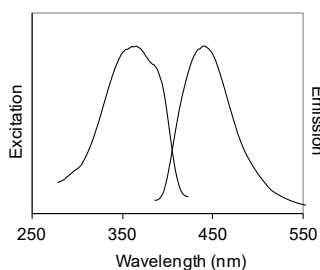

Figure 1. Normalized excitation and emission spectra of CellBrite® Blue in liposomes.
**Absorption/Emission** 366/441 nm in liposomes (Fig. 1)